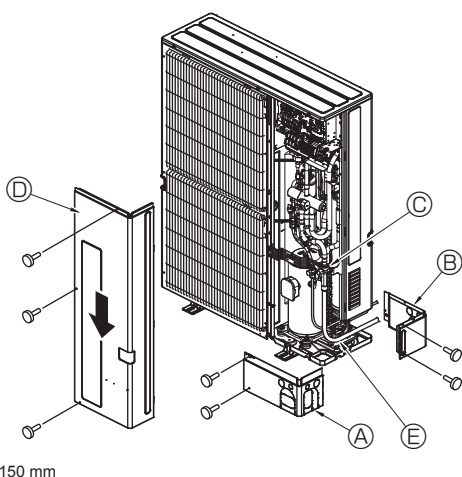

Fig. 4-9
4.5. Refrigerant piping (Fig. 4-9)